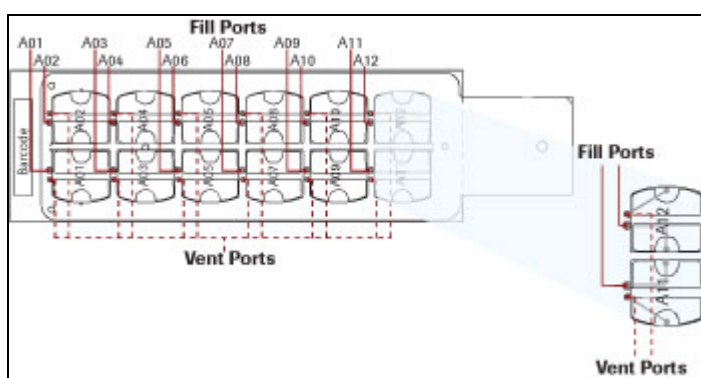

Figure 4. AccuSNP Slide with Mixer
3. Load sample into a fill port (Figure 4)